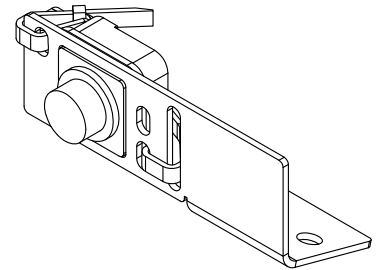
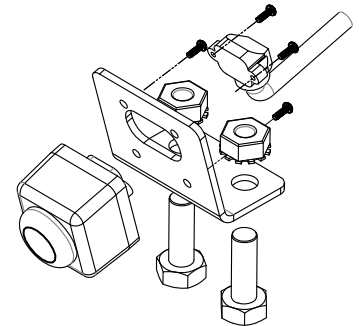
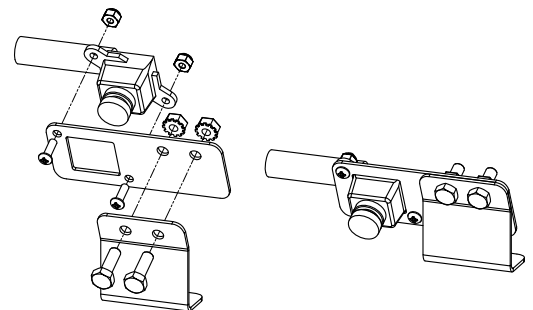

Figure 4: Ford rear camera in bracket.
Figure 5: GM rear camera in bracket.
Figure 6: Ram rear camera bracket assembly.
- 9. Place** camera into bracket and zip tie as shown for a Ford (Figure 4), screw in place for a General Motors (Figure 5) or Ram (Figure 6).